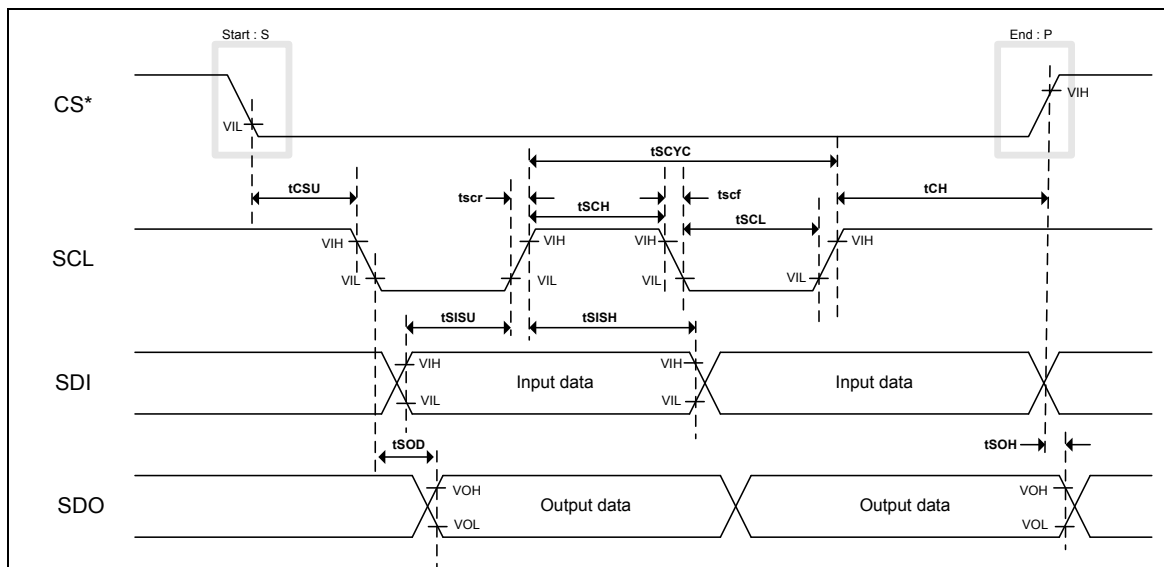

Figure 83 Serial Peripheral Interface operation
**Table 102** See Figure 83 (Condition: IOVcc = 1.65 to 3.30V, Vcc = Vci = 2.50 to 3.30V)